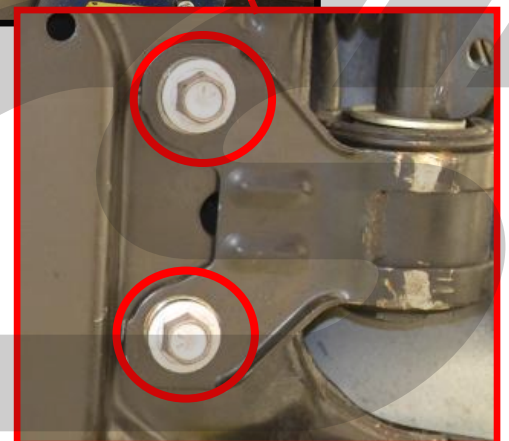

Figure 2d
- e) Remove the four (4) 17mm Bolts holding down the swaybar brackets. These also hold the back of the control arm. Figure 2d shows a close up of the driver's side bolts. Brackets can be seen in Figure 2